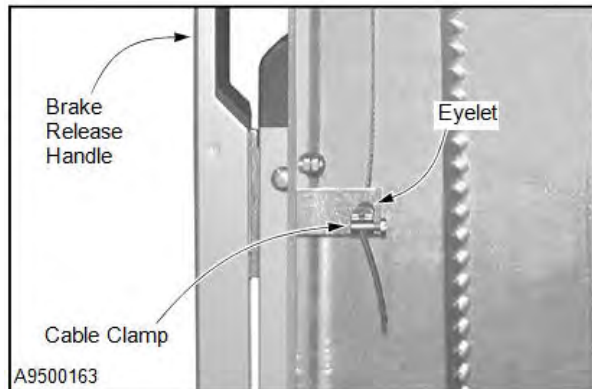

Figure 32
3. Make sure the brake release handle is in good working order and securely fastened to the left side column. Replace any missing or damaged hardware as required. (See Figure 32.)
6. Inspect the cable clamp on the lower end of the cable to ensure it is securely fastened to the brake release handle. (See Figure 32.)